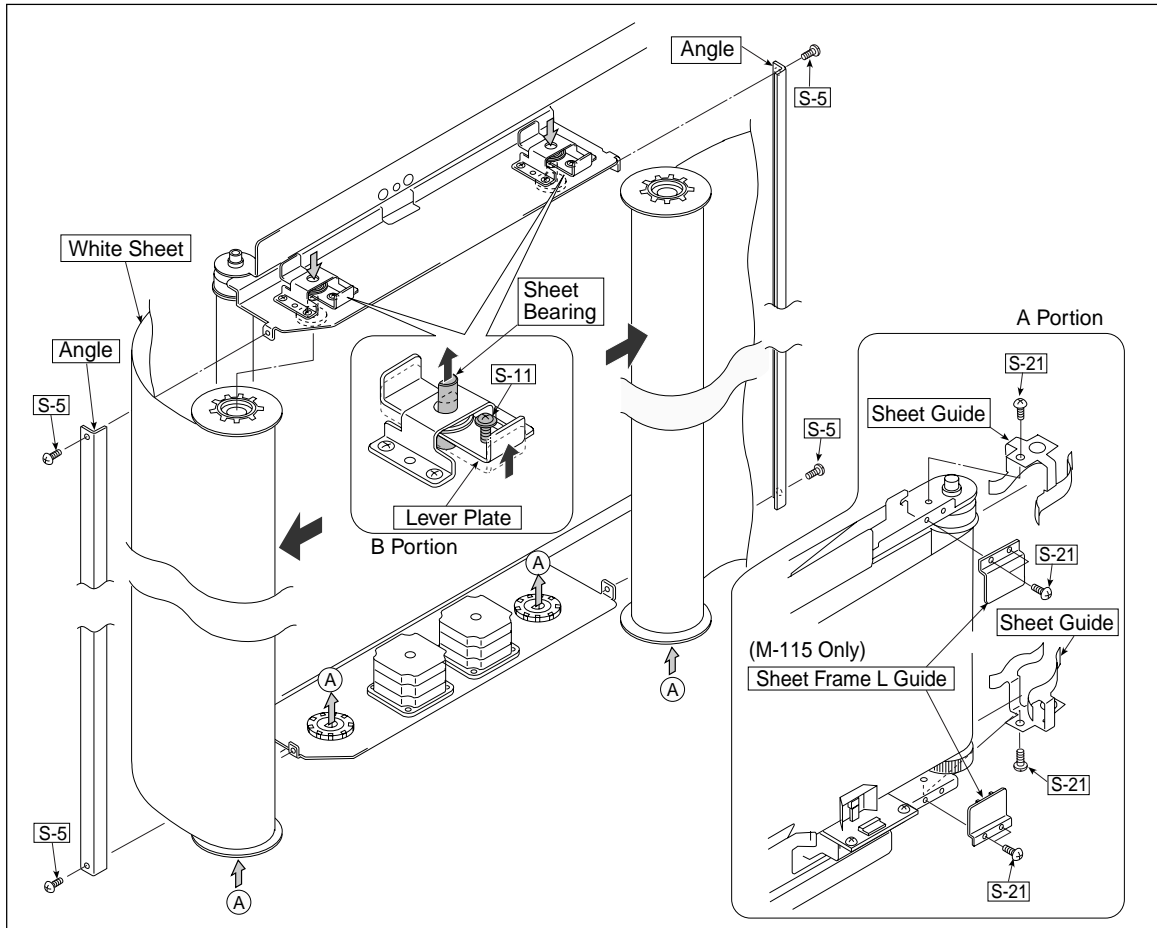

Fig. 16
12) Remove the White Sheet. (See Fig.16.)
1. As shown in portion A in the auxiliary drawing of Figure 16, remove the "S-21" screws and then remove the two Sheet Guides (at the top and bottom).
2. As shown in portion A in the auxiliary drawing of Figure 16, remove the "S-21" screws and then remove the two Sheet Frame L Guides (at the top and bottom). (Used exclusively for M-115.)
3. Remove the "S-5" screws shown in Fig. 16 and then remove the Angle.
4. Loosen the "S-11" screw shown in portion B in the auxiliary drawing of Figure 16 as far as it will go.
5. As shown in portion B in the auxiliary drawing of Figure 16, loosen the Lever Plate and push the top of the Sheet Bearing upward.
6. As shown in Figure 16, remove the bottom of the White Sheet and then remove the top of it.
7. As shown in Figure 16, wind the White Sheet.
3. Remove the LED Unit as shown in Fig. 16.